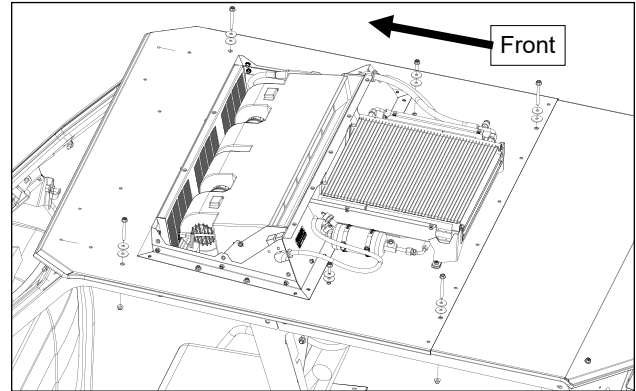

Fig. 4.7 Roof Fasteners
- 4.7 Per fig. 4.7, loosely install the (6) bolts, steel fender washers and rubber fender washers. *Note: Steel washers against bolt head and rubber washers against roof.*